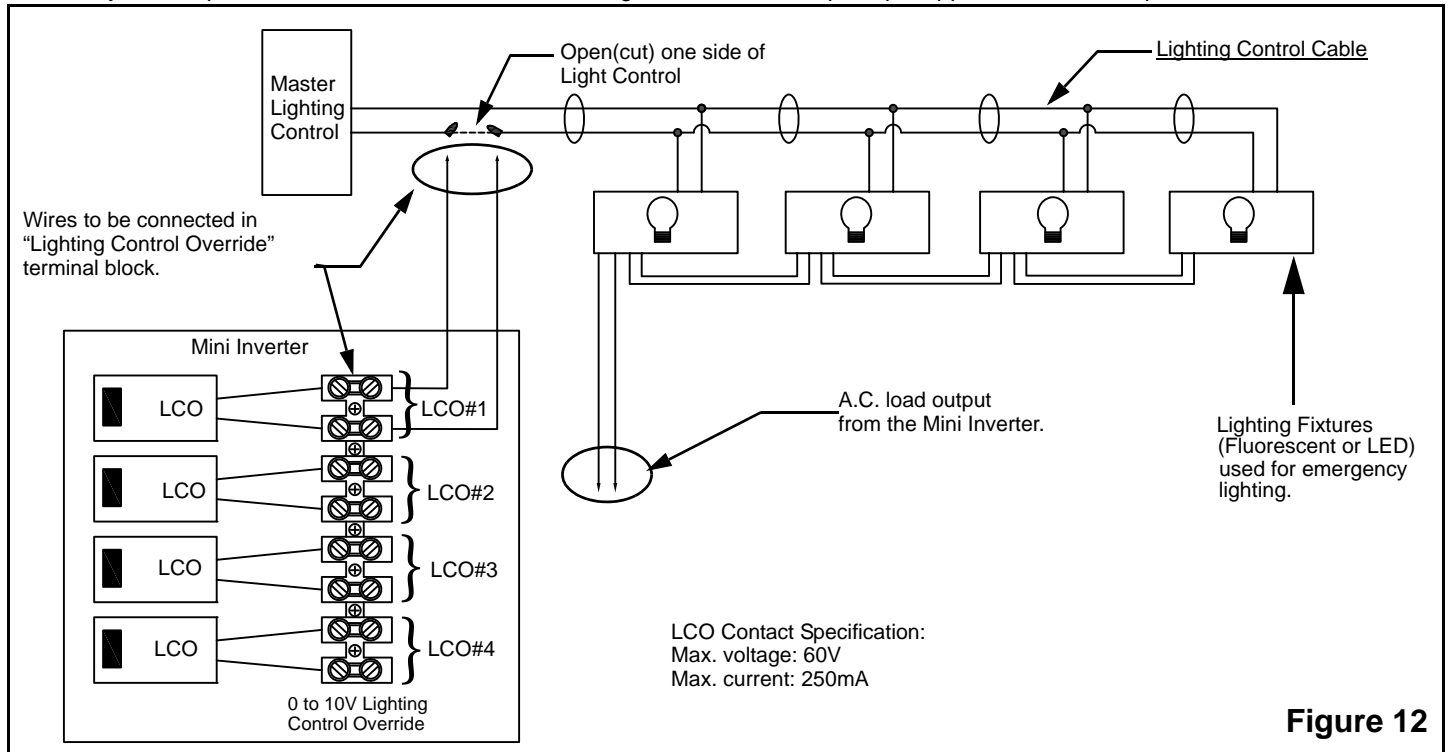

Figure 12
3. Connect to the terminal block marked "LIGHTING CONTROL OVERRIDE" as shown in the Figures 12 & 13.
Note: Only one output circuit and one LCO are shown in figure 12. The same principle applies to all four output circuits and four LCOs.